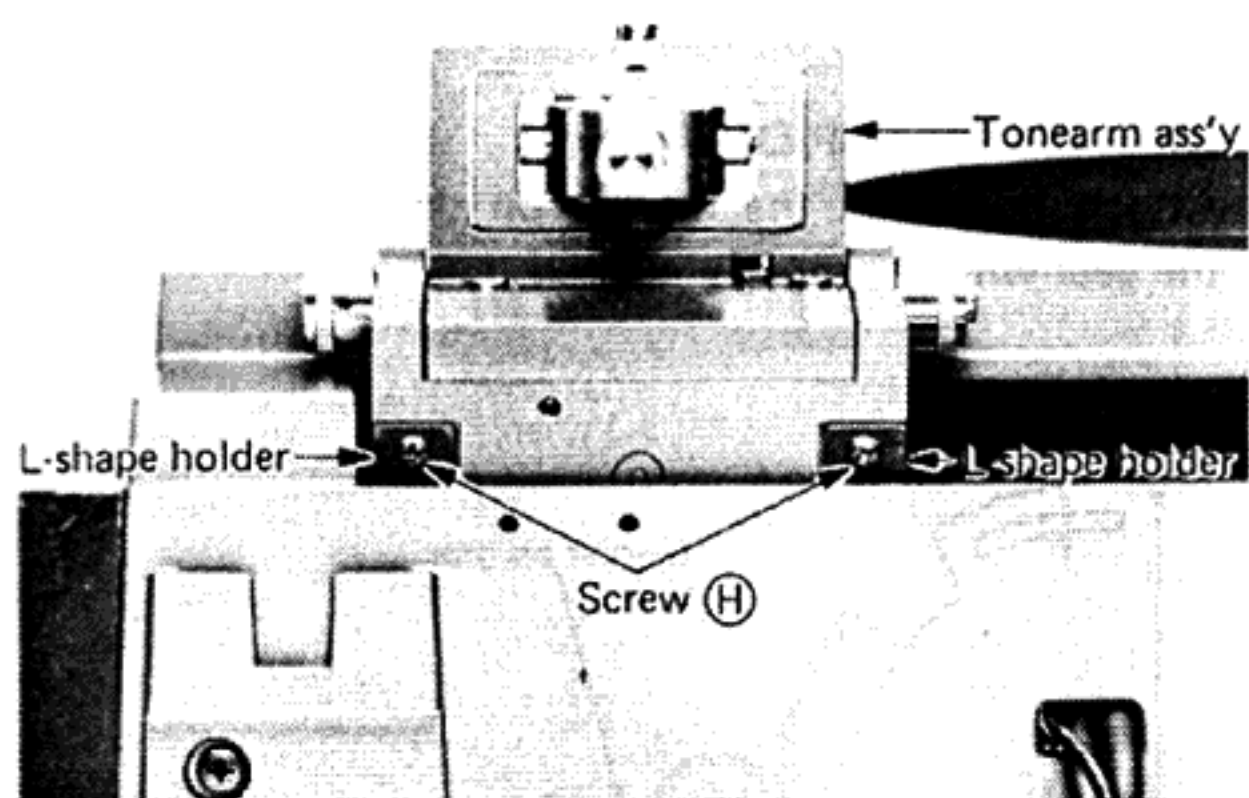

Fig. 4
- 10) With the set placed in its normal position, remove the two screws (H) and detach the L-shape holder. (Refer to Fig. 4)